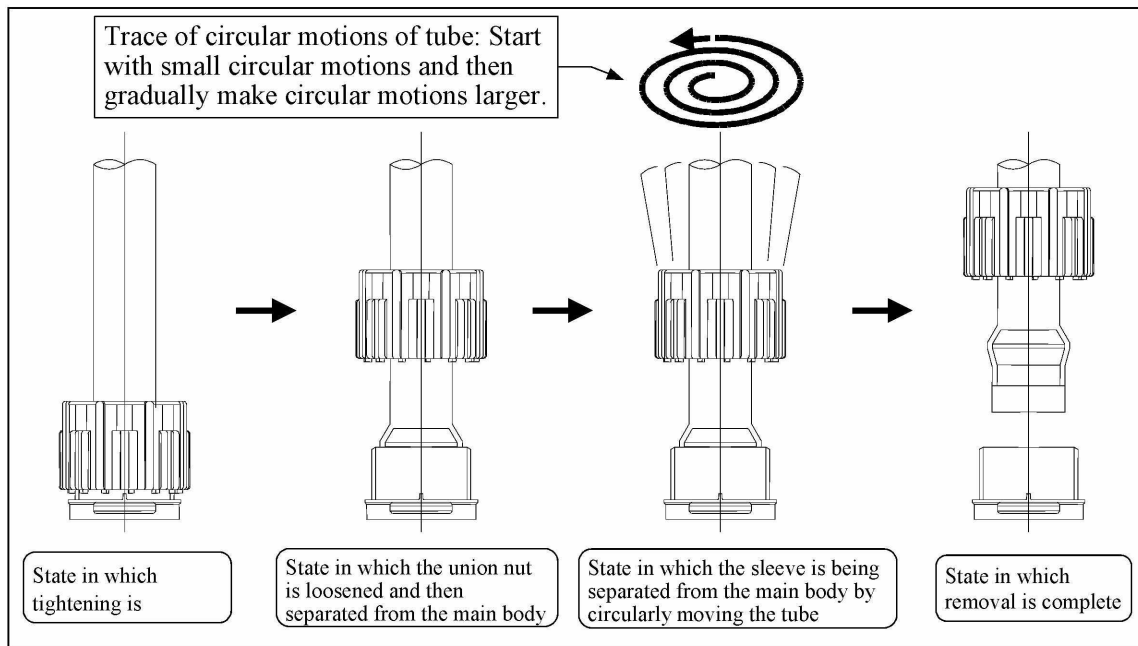

Fig. 11 - How to remove P series Super 300 Type Pillar Fitting (6 - 25, W2 - W8)
- **In removing the fitting, circularly move the tube like first drawing small circles and then gradually drawing larger circles (see Fig.11).If you greatly twist the tube to left or right or if you circularly moves the tube like suddenly drawing large circles, then the sleeve may remain on the main body, hindering you from retightening the tube.**